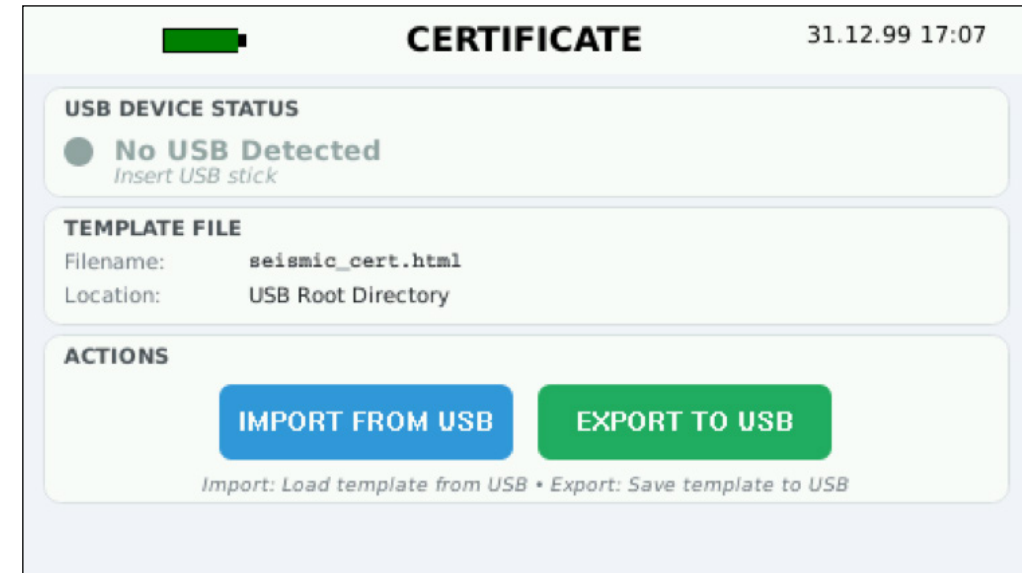

Figure 27
2. On the Certificate Import/Export screen (Figure 27), you can check the connection status of a USB flash drive, see the file name of the current certificate template, import a certificate template from USB, or export (save) a template file to USB: